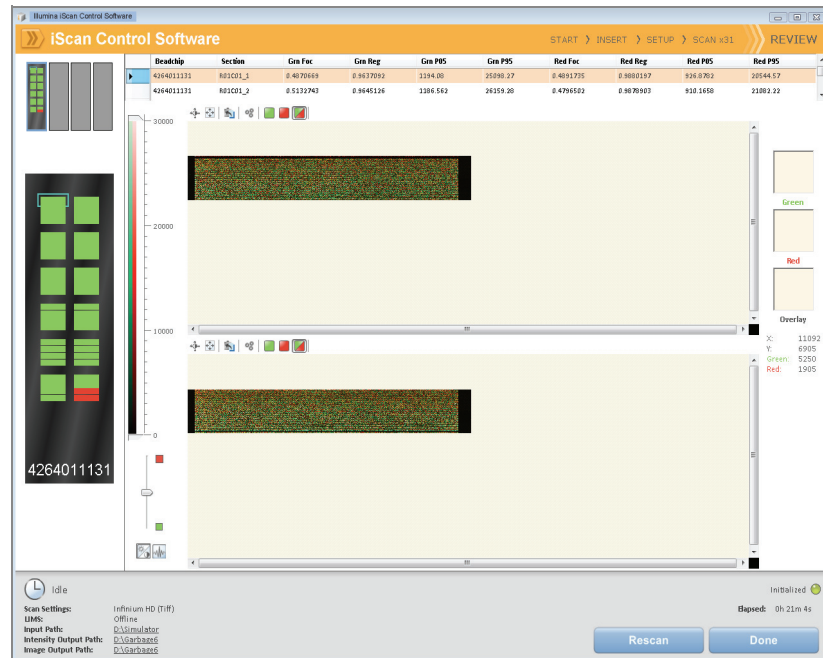

Figure 84 Review Window with Failed Stripes
11. At the end of the scan, a Review window appears (Figure 84). The Scan Metrics table at the top shows the intensity values, registration, and focus metrics for each stripe on the BeadChip.